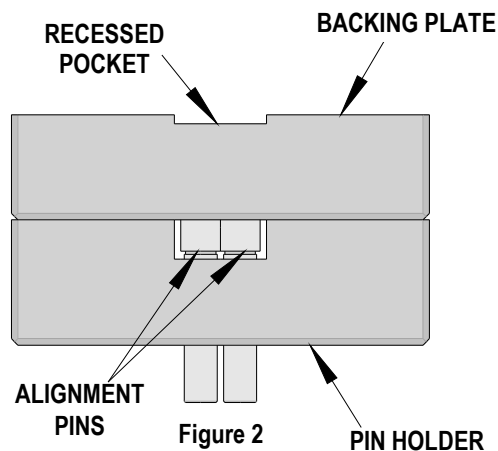

Figure 2
When Micro-Fit Headers have the same lengths of mating pins the tool is assembled with the recessed pocket in the backing plate is positioned as shown in Figure 2.
1. Remove the (4) screws from the backing plate.
4. Replace the backing plate and replace the (4) screws. Be sure the backing plate is assembled correctly to the pin holder shown in Figure 2.